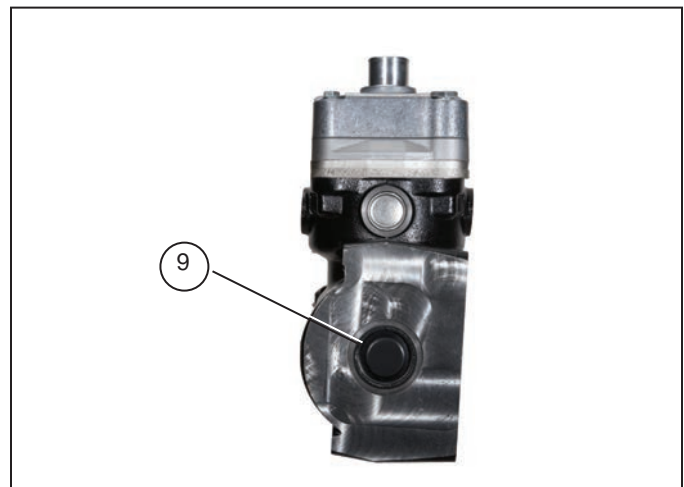

FIGURE 10 - FRONT COVER
1. Remove the cover (9) from the front of the crankcase. Use a sharp, flat head screw driver or a scraper. Place the edge under the lip along the outside diameter of the cover. Pry the cover from the cast surface until the cover can be removed. *Refer to Figure 10.*